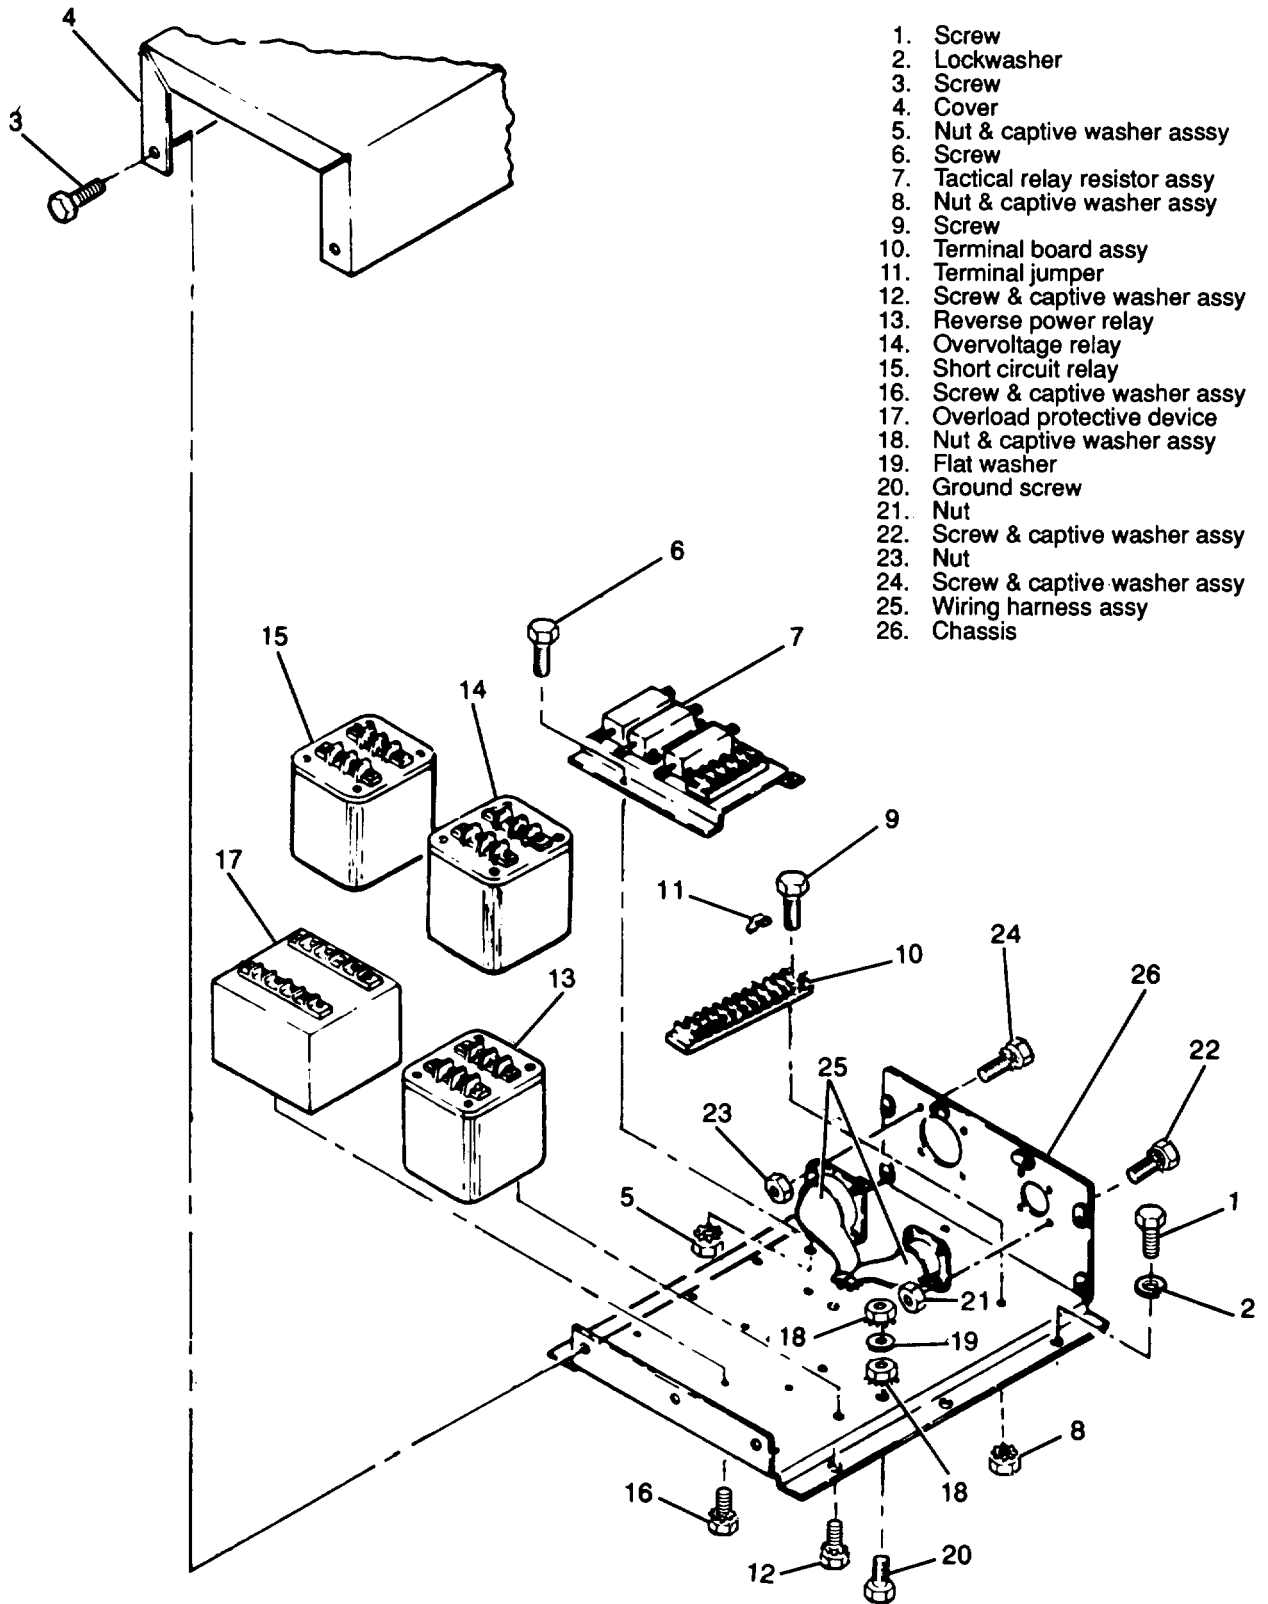

Figure 3-111. Tactical Relay Assembly, Exploded View
- (1) Disconnect electrical connectors to the tactical relay assembly.
- (2) Remove screws (1, figure 3-111) and lockwashers (2) to remove relay assembly from generator set.
- (1) Remove screw (1, figure 3-111), and lockwasher (2).
- (2) Remove screw (3), and cover(4).
- (3) Remove nut & captive washer assembly (5), screw (6) and tactical relay resistor assembly. (7).
- (4) Remove nut & captive washer assembly (8), screw (9), terminal board assembly (10) and terminal jumper (11).
- (5) Remove screw & captive washer assembly (12), reverse power relay (13), overvoltage relay (14) and short circuit relay (15).
- (6) Remove screw and captive washer assembly (16) and overload protective device (17).
- (7) Remove nut & captive washer assembly (18), flatwashers (19), ground screw (20), nut (21), screw & captive washer assembly (22), nut (23), screw & captive washer assembly (24), and wiring harness assembly (25), from Chassis (26).